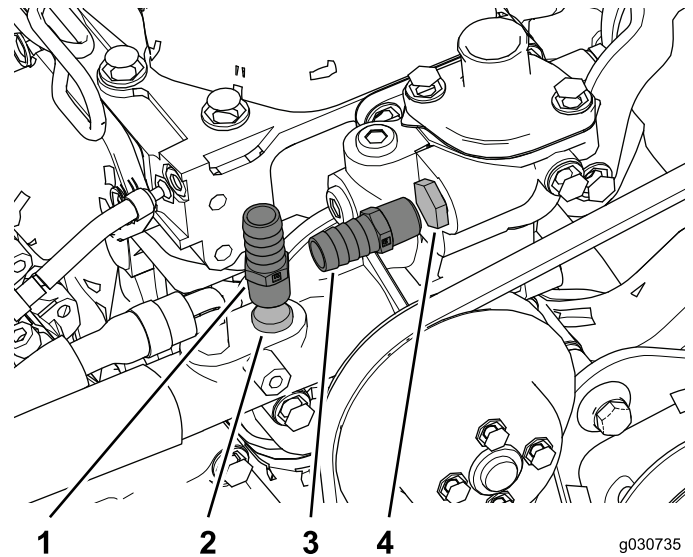

Figure 35
2. Remove the remove the heater supply and return hose plugs from the engine and install the fitting (3/8 NPT x 0.625 barb) as shown in Figure 35.